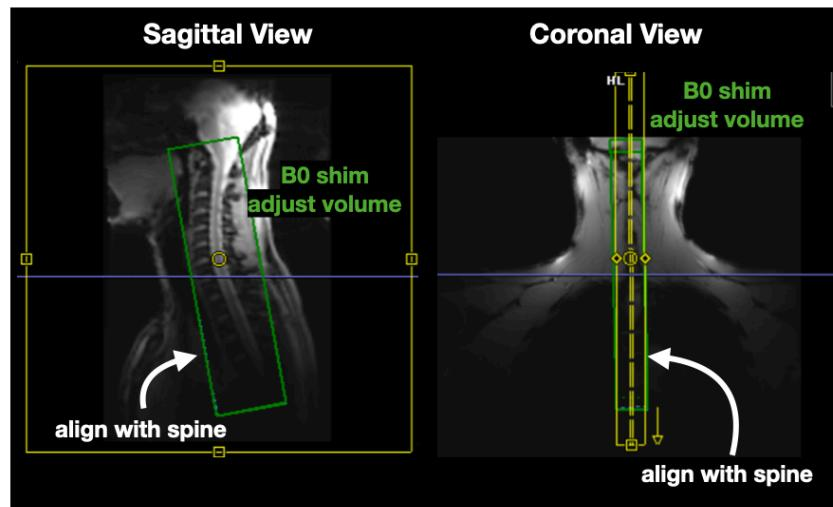

Figure 8. Positioning of FOV and B0 shim box for Large FOV sagittal coilQA scans.
- Position the B0 shim adjust volume according to Figure 8